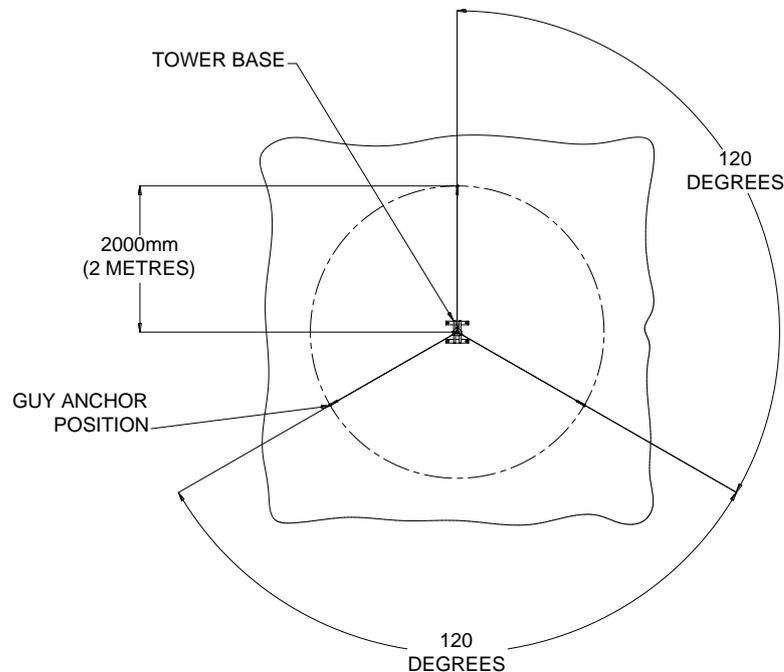

Fig 2: Anchor positions
4. **Mark out the tower anchor positions** - Begin by selecting an appropriate position for the tower base. Remember that the guy wires will radiate out from the centre of the tower, so you will need to ensure that enough room is available. A footprint of 4 metres diameter is required for the tower guy wires. See fig 2 for the positions of the anchors. Measure and mark these positions starting from the position of the tower base. One of the guy anchors must be in-line with the tilting action of the tower to allow easy final erection.